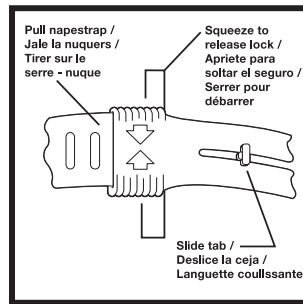

Figure 5
- For STAZ-ON suspensions, squeeze the lock on the nape strap to release the ratchet and pull the nape strap to the maximum open position (Figure 5).